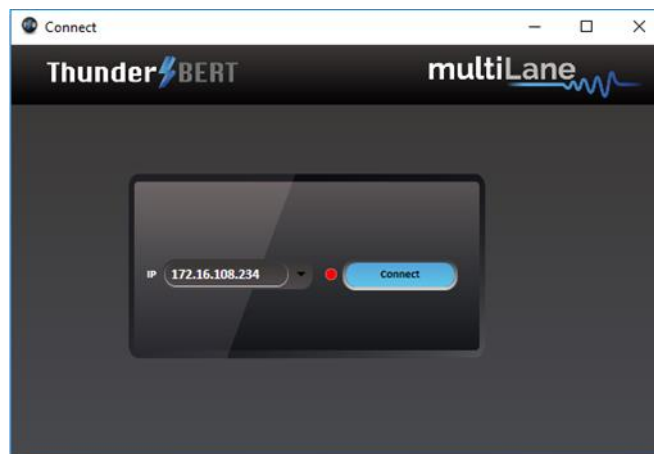

Figure 2: Connection Box
- **Connect** using the IP address of the target instrument (Figure 2). The IP address is printed on the back side of the BERT.
- The red-light indicator (R) will remain red while no connection is established (Figure 2).